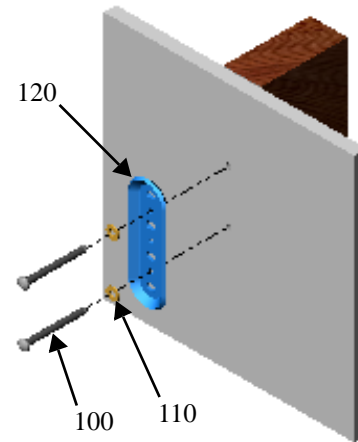

Figure 2. Secure Wall Bracket
2. Using the wall bracket (120) as a template, drill two 3/32" pilot holes to a minimum depth of 1-1/2".
3. Using two #10 x 2-1/2" wood screws (100) and two washers (110), secure the wall bracket (120). See Figure 2.